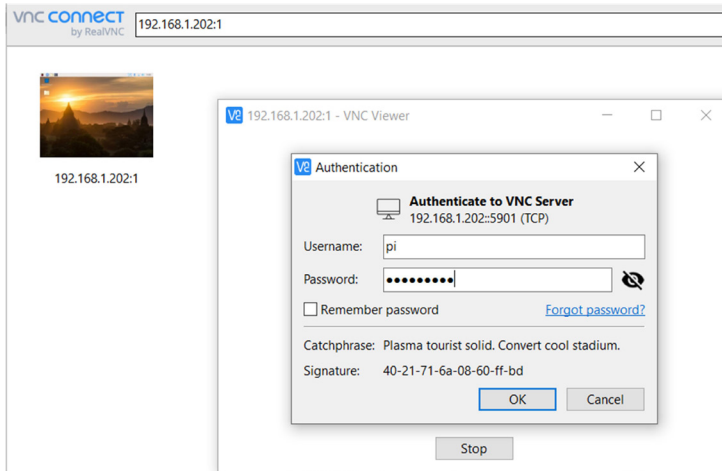

Figure 1.9 Start the TightVNC and enter the IP address
- Start **TightVNC Viewer** on your PC and enter the Raspberry Pi IP address (see Figure 1.9) followed by :1. Click **Connect** to connect to your Raspberry Pi.